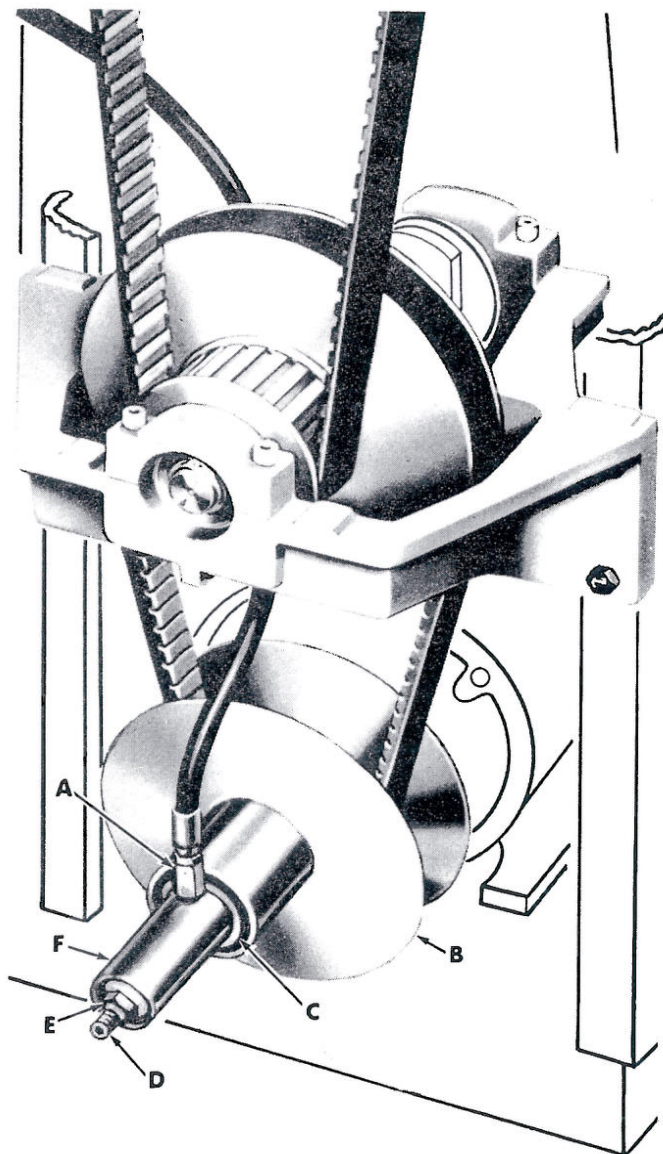

Figure 24
1. Hold nut (E, fig. 24) with wrench, and turn shaft (D) with a socket set screw wrench -- clockwise if speed is too low, counter-clockwise if speed is too high.